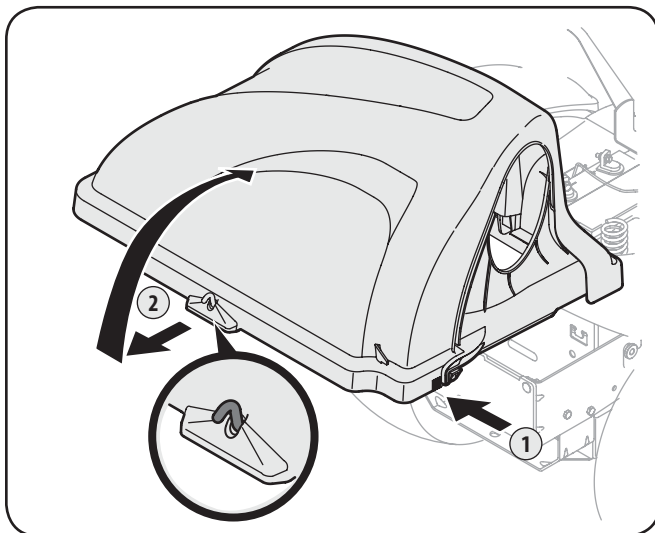

Figure 5-1
2. Open the grass bag cover by pushing in on the rear, right-side tab with your right hand, as seen in 1 of Fig. 5-1, and lifting the cover with your left hand in the center rear of the bagger cover, 2. Do not remove the chute tube assembly from the tractor.